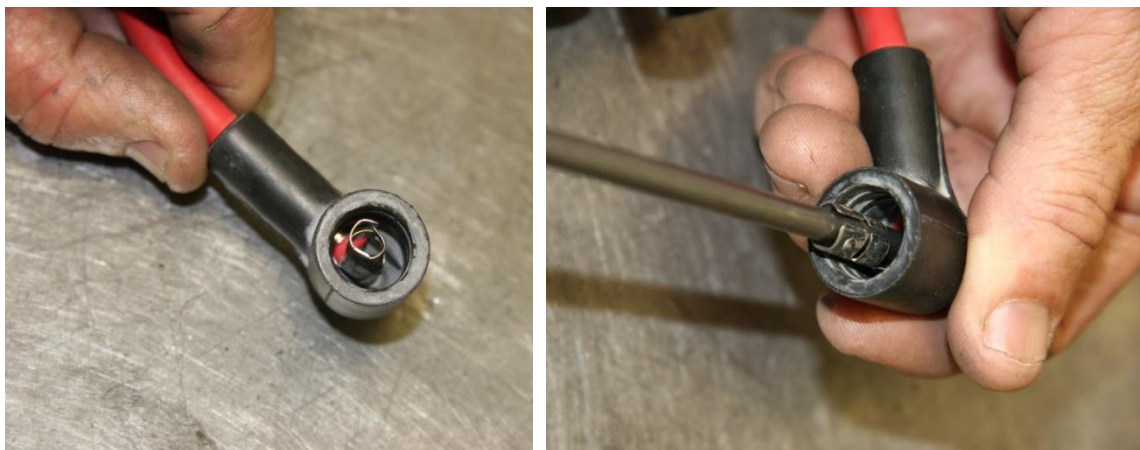

Figure 34 – Adjusting High Tension Lead Caps
- Visually check the metal contacts inside the caps. If the fit is loose or if the contact is visibly damaged as shown in Figure 34 then a screwdriver or similar must be used to re-shape the contact (it should be round) and to re-size it for a better fit – for a spark plug the diameter of the contact needs to be reduced to tighten while for a distributor cap it needs to be expanded. Each cap should fit with a clear “click” as it connects to the distributor cap or spark plug. Take care not to over-bend and contact and replace any which are damaged.